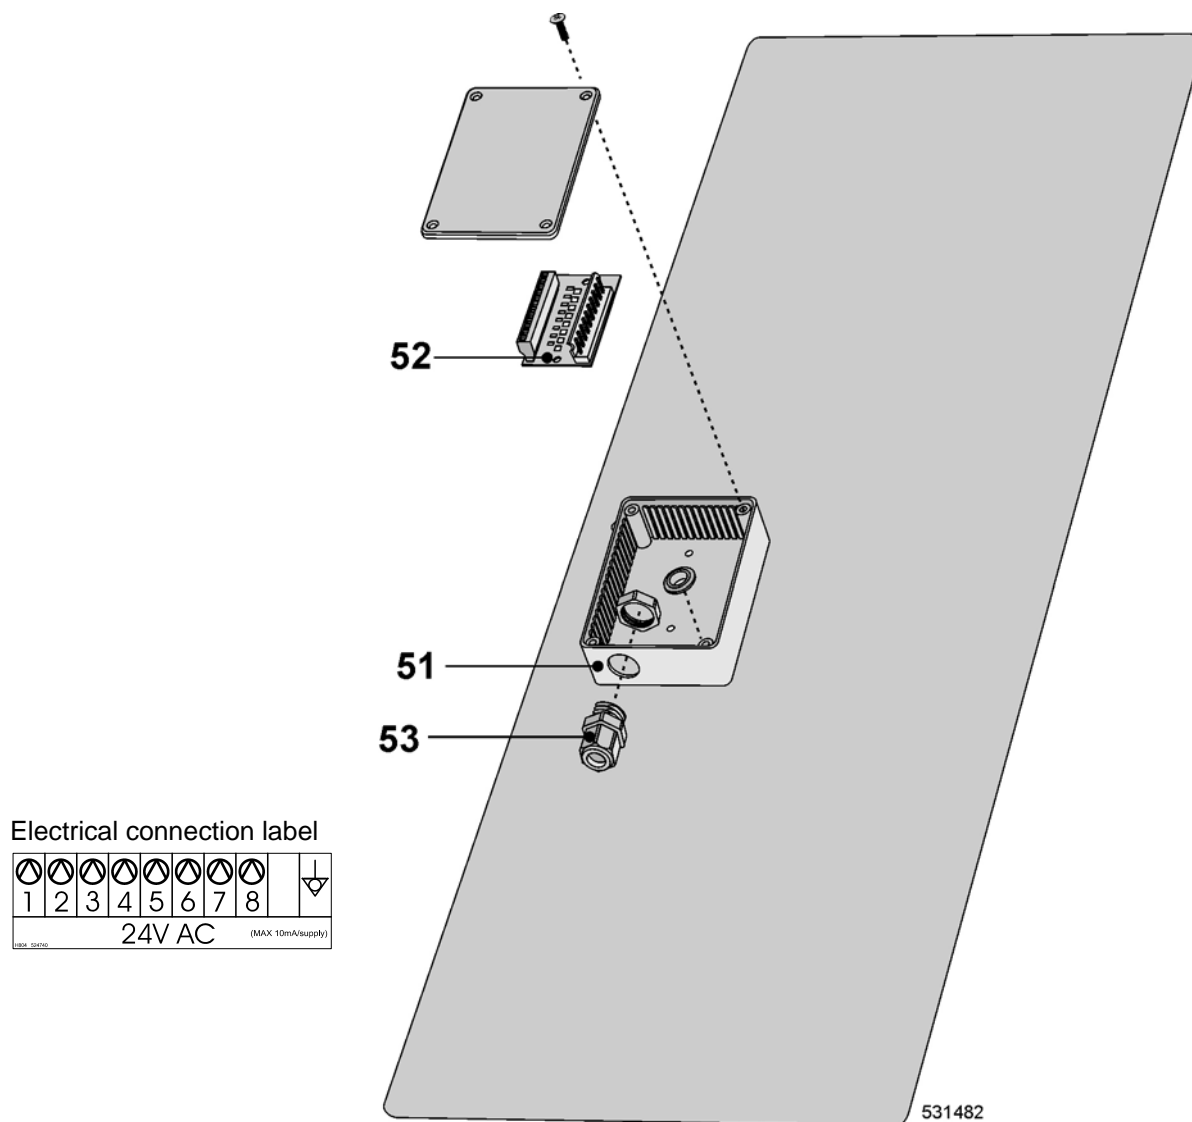

Fig.4.4.H.
For electric connection of supply control signals a plastic box is available on the upper stand of the machine (see fig.4.4.H., pos.51) with the terminal box with LED signalization of activation of the respective pump, (pos.52). Under the terminal box there is a label for electric connection, fig.4.4.H. Detail connection of signals could be also found on the electric scheme of the machine. Signals for supply pumps control are 24V AC. Maximum current for control circuits of pumps must be limited to 10mA. Lead the cable for connection of pumps control signals through the plastic cable bushing, position 53. After connection of conductors to the respective positions of the connector „P“ (screw clamps), fix up the cable by tightening the cable bushing against disconnection and close the box with the cover. For details about liquid soap supply system programming, see Programming manual.